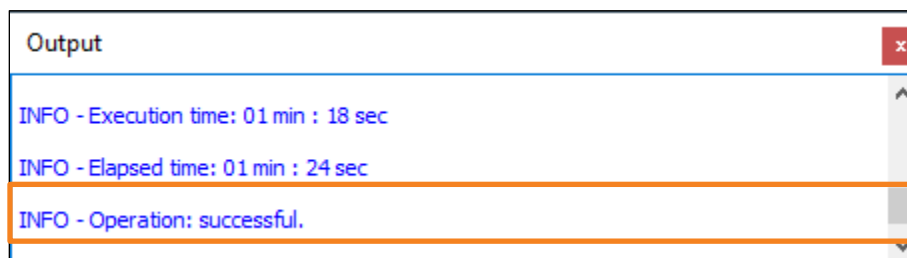

Figure 3.5. Lattice Radiant Programmer Output Window
7. Check the **Output** Console at the bottom of Lattice Radiant Programmer for the programming results. You should see **Operation: Successful** as shown in Figure 3.5.